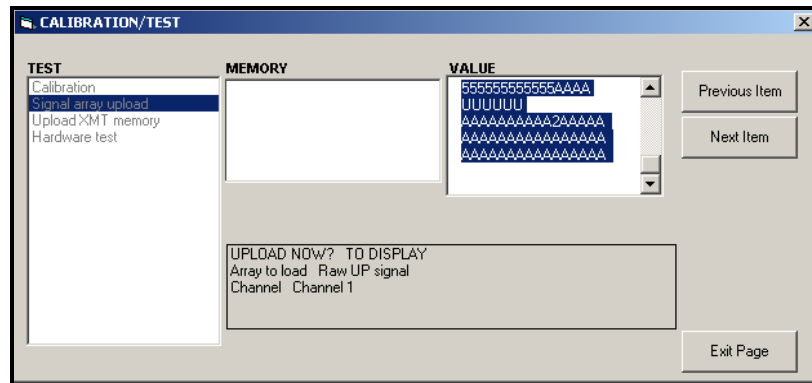

Figure 13: Signal Array Data Displayed on PanaView
- If you double-click on *To Display*, the right pane of the window appears similar to Figure 13, and the data is available for immediate evaluation. Click [Exit Page] to close the window and return to the *Calibration/Test* menu.